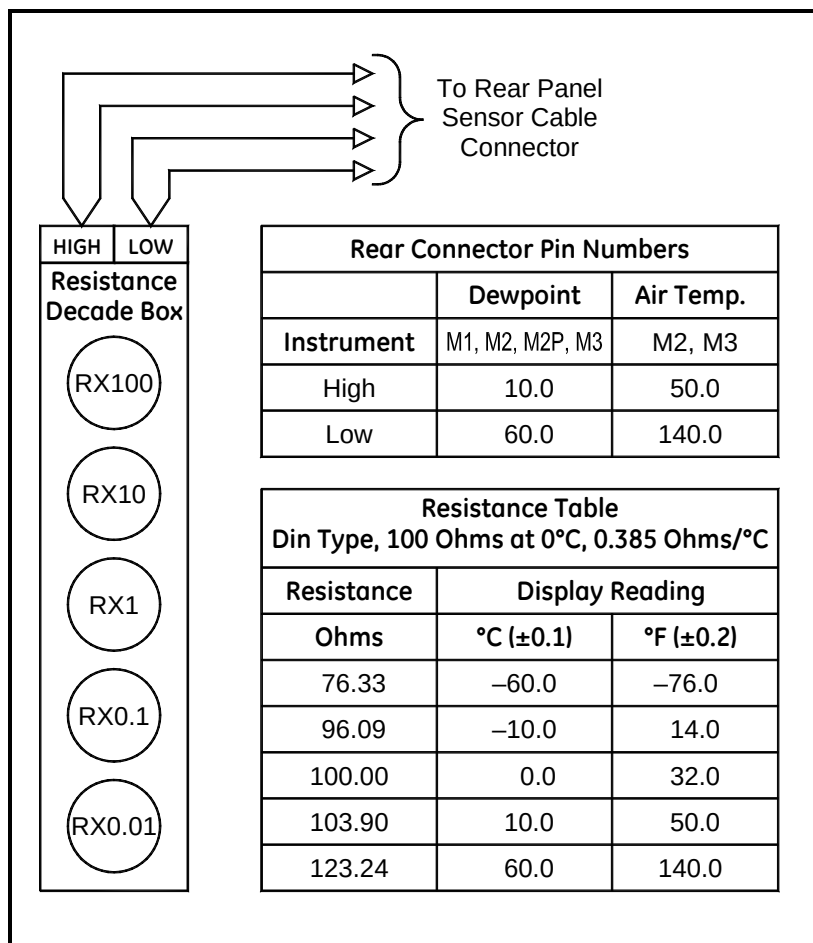

Figure 5-3: Resistance Decade Box Wiring Configuration
1. Connect the decade box through the input for the sensor, using the wiring configuration shown in Figure 5-3 on page 5-9.